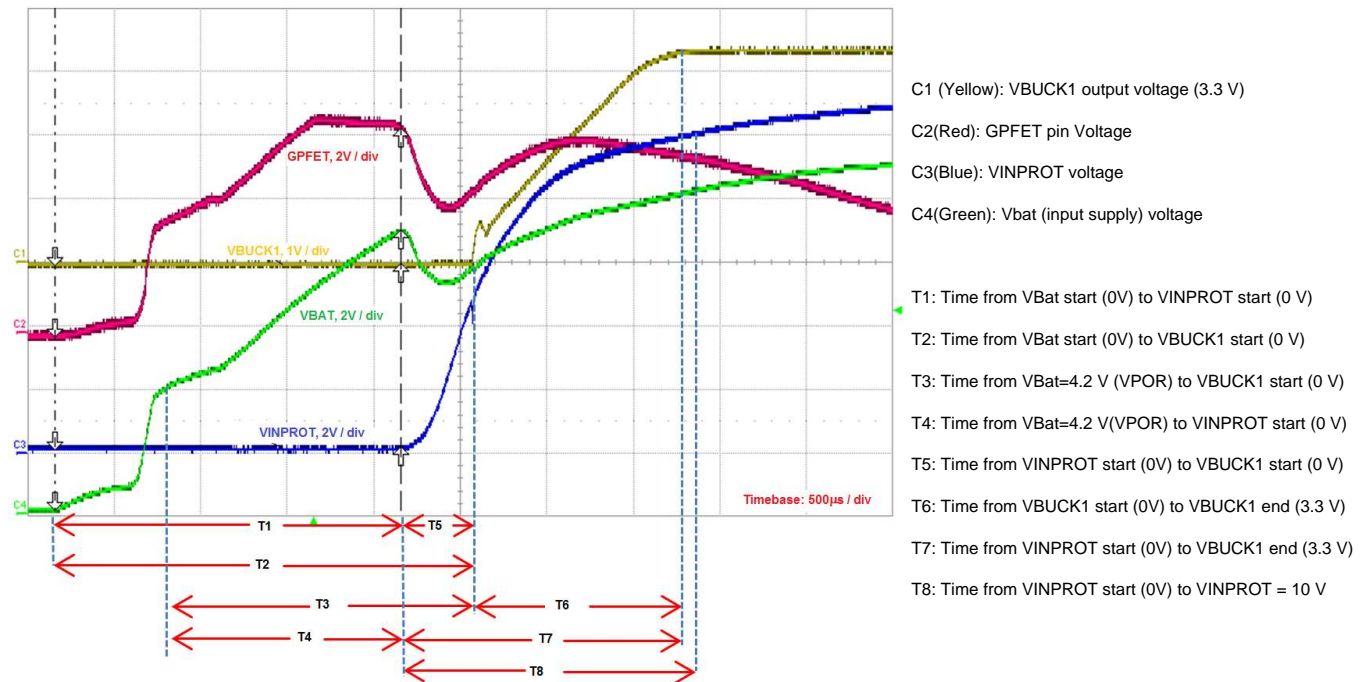

Figure 2. Start-up Timing Diagram
- TPS65311-Q1 start-up behavior with Vbat ramped from 0 V to 12 V is captured without an external C_{ss_gpfet} capacitor as a reference as shown in Figure 2.